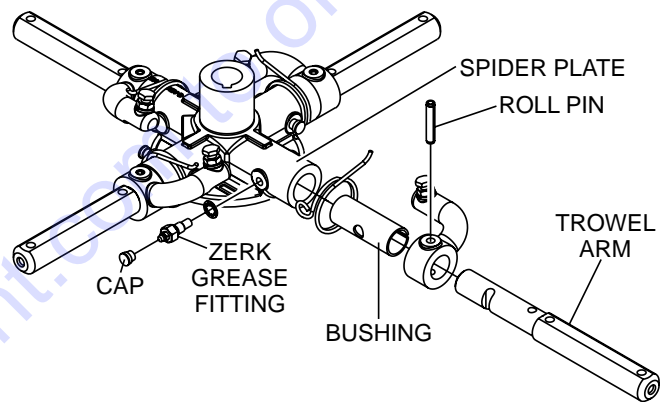

**Figure 52. Blade Removal**
2. Remove the bolts and lock washers from all the towel arms, and then remove the blades as shown in Figure 52.